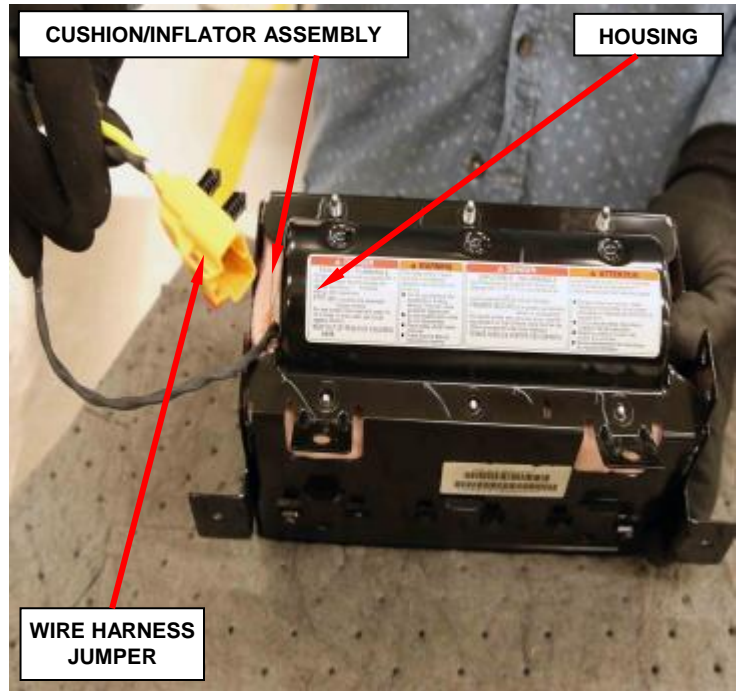

Figure 25 – Cushion/Inflator Assembly
1. Install the cushion/inflator assembly into housing while feeding the wire harness jumper through the housing as shown. Ensure cushion fold is not disturbed (Figure 25).